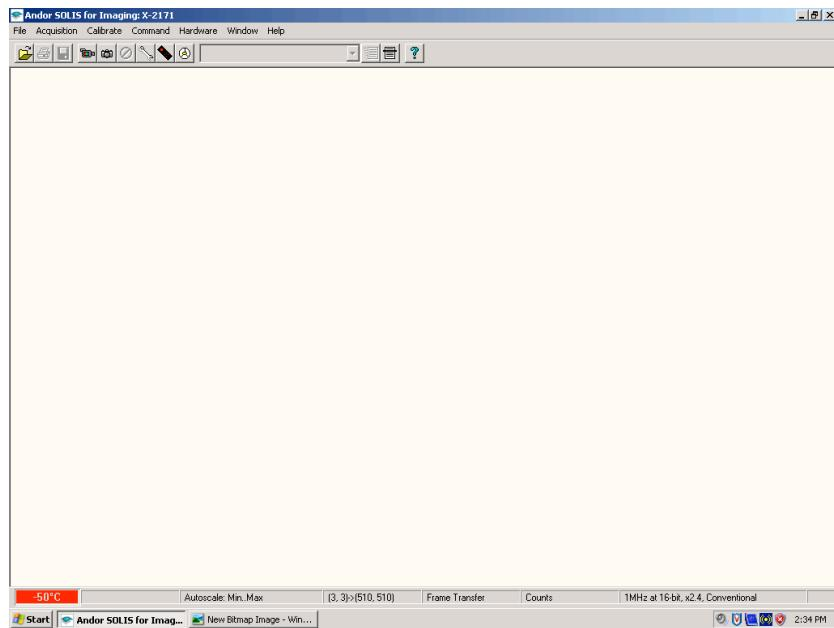

Figure 2. Solis v.4.6.5 (POETS camera software) as it appears upon successful startup.
- (1) CLICK on the “Andor iXon” desktop shortcut icon to start the camera software.** (Note that this icon should be near the Spectrum Inst./TM-4 icon that is employed to monitor and send trigger signals from the GPS. Other software shortcuts are provided on the desktop for usefulness, but are not necessary to run the instrument).
- (2) CONFIRM that the camera software starts and presents a screen like that shown in Figure 2.**